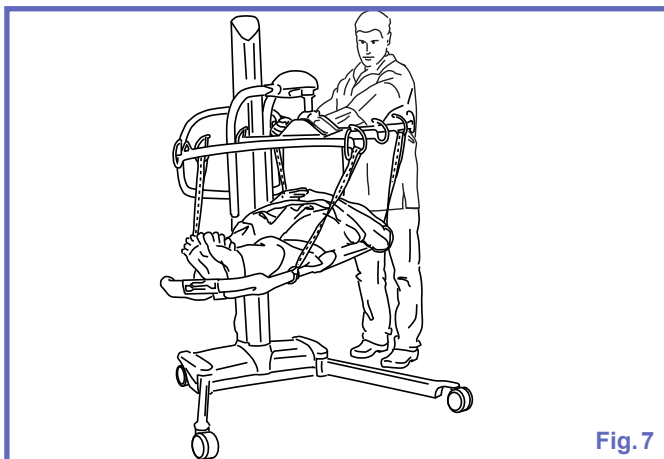

Fig. 7
**NOTE:** When transferring the patient through a door, rotate the stretcher frame until the patient's head is close to the mast (see Fig. 7). In this position, the complete unit may be moved through wide doorways.